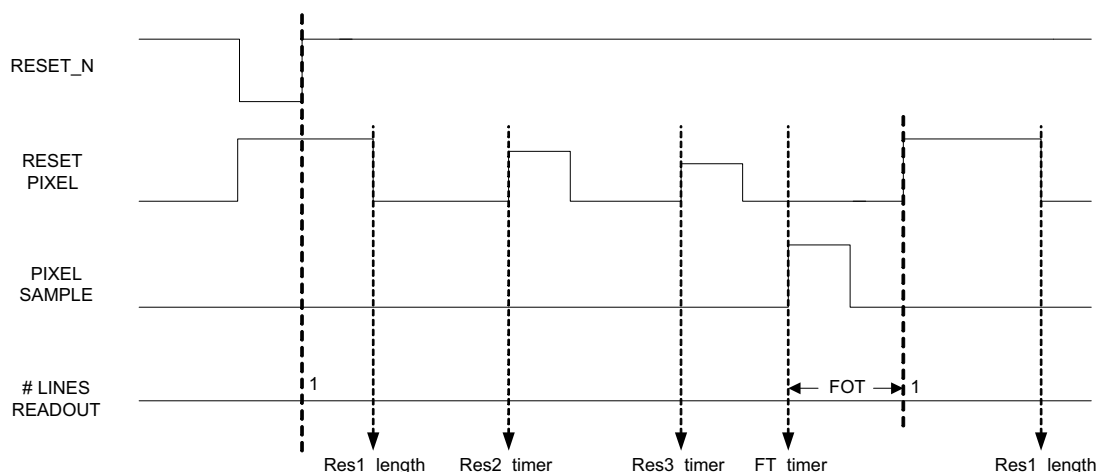
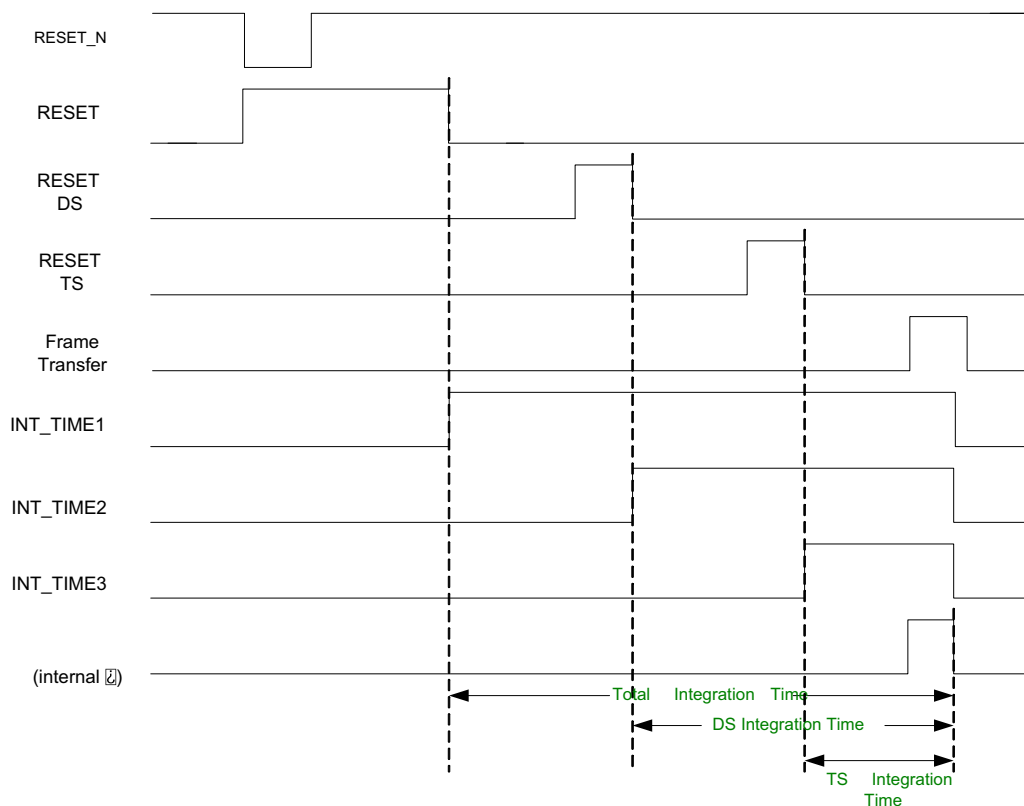

Figure 15. Integration Timing in Master Mode
Figure 16. INT_TIME Timing
In mastermode the integration time, the dual slope (DS) integration time, and triple slope (TS) integration time are set by the SPI settings. Figure 15 shows the integration timing and the relationship with the SPI registers. The timing concerning integration is expressed in number of lines read out. The timing is controlled by four SPI registers which need to be uploaded with the desired number of lines. This number is then compared with the line counter that keeps track of the number of lines that is read out.
The length of the integration time, the DS integration time and the TS integration time are indicated by 3 output pins: INT_TIME_1, INT_TIME_2 and INT_TIME_3. These outputs are high during the actual integration time. This is from the falling edge of the corresponding reset pulse to the falling edge of the internal pixel sample. Figure 16 illustrates this. The internal pixel sample rises at the moment defined by FT_TIMER (see Figure 15) and the length of the pulse is $4 * (12 * (GRAN<1:0> + 1) + 2)$.